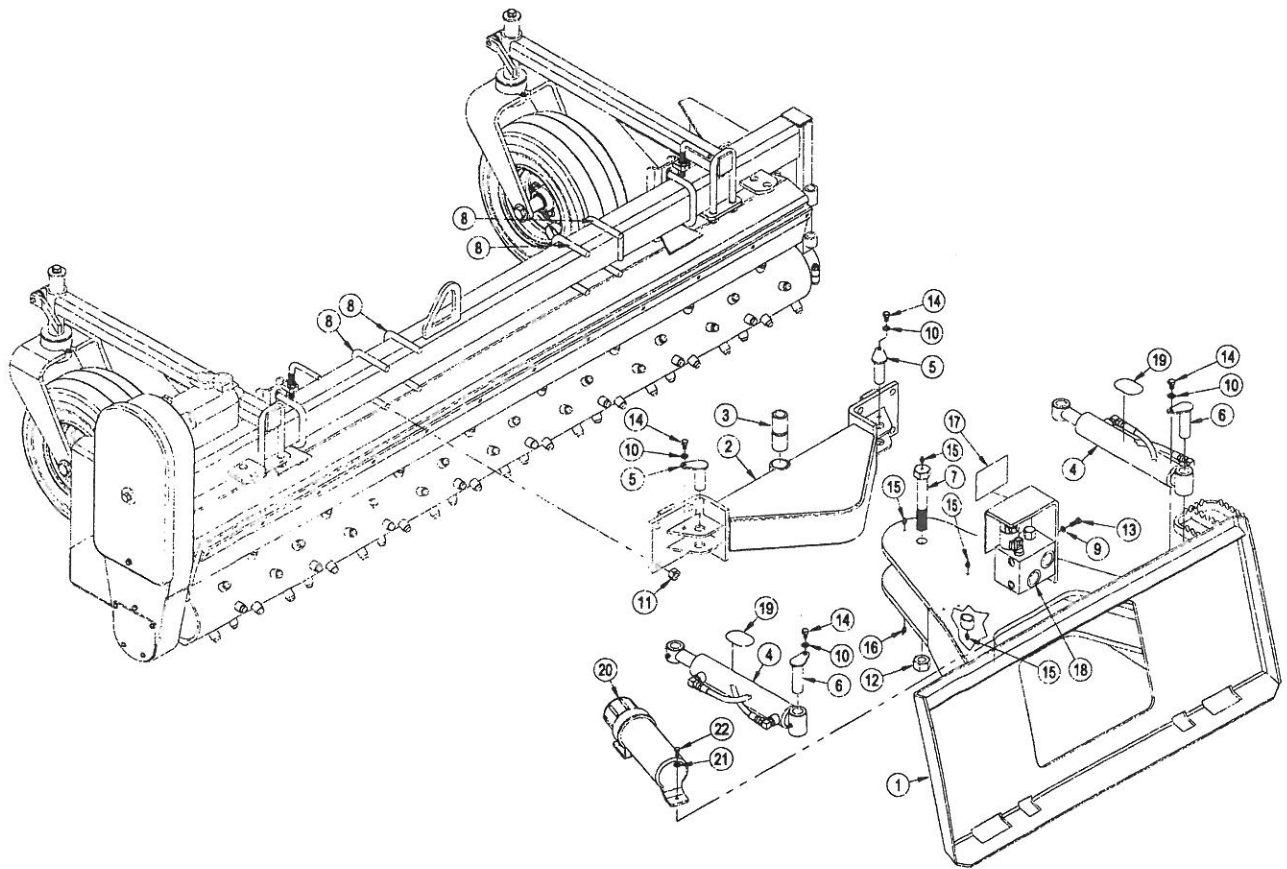

Figure 11. Dual Hydraulic Angle Assembly
ANGLING MODEL ASSEMBLY PROCEDURE (See Figure 11 & Figure 14)
2. Attach the two gauge wheel assemblies to main frame using two 5/8" U-bolts and locking nuts as shown in **Figure 11 (page 30)** and **Figure 14 (page 38)**.